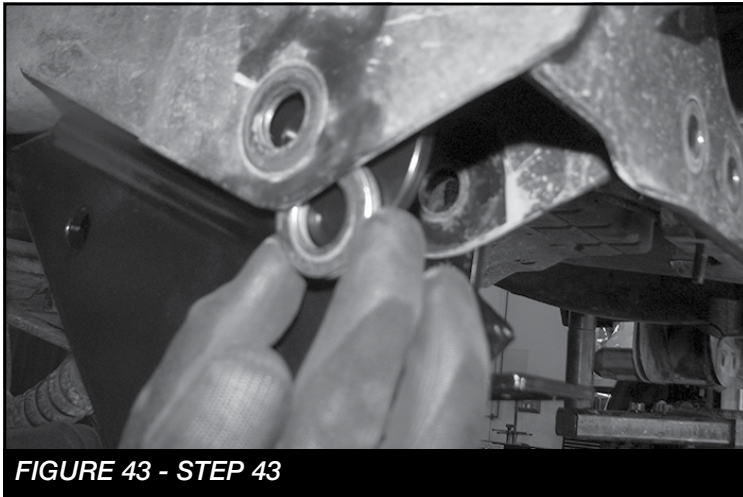

FIGURE 43 - STEP 43
43. From Bag 5, Locate the 3/4"-10 X 2" Bolt, 4 washers and nut. **NOTE: When installing the 3/4" bolt insert 2 washers between the factory bracket and the new Fabtech 4-link bracket.** Leave loose. **SEE FIGURE 43**